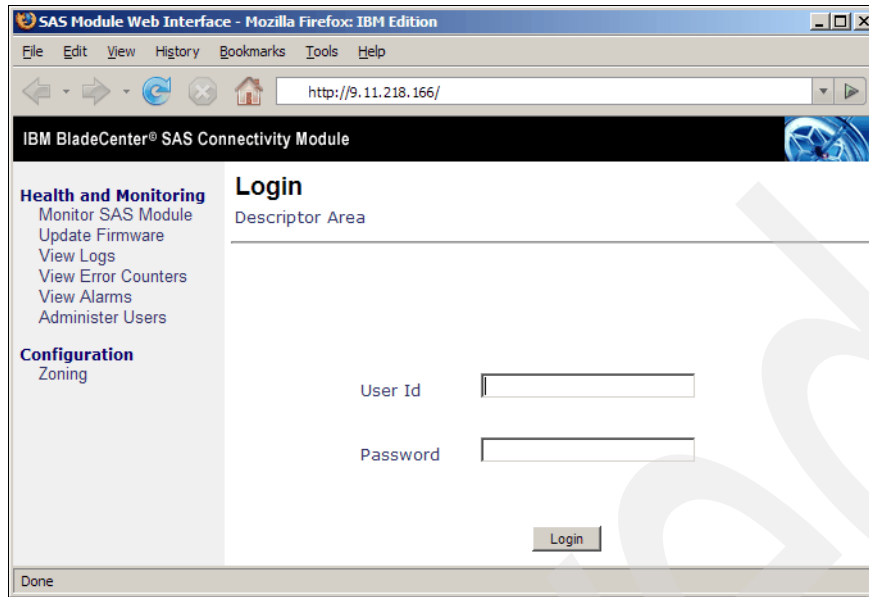

Figure 20-3 SAS Connectivity Module - Login
1. Log on to the SAS Connectivity Module using the Web interface with the IP address defined for the connectivity module in the BladeCenter Advance Management Module (AMM), as shown in Figure 20-3 on page 449. Use USERID as the user ID and PASSWORD as the password. You can change the password under the Administer Users menu option once logged on.